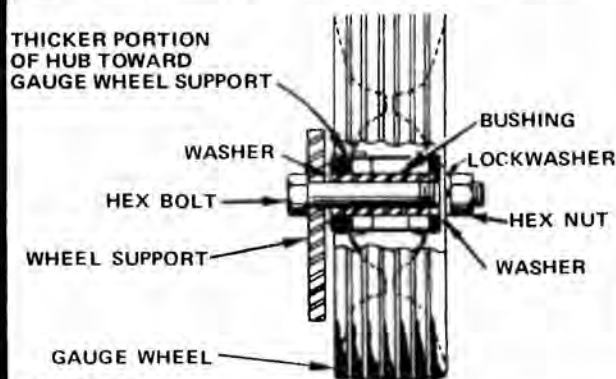

FIGURE 3
4. Assemble Gauge Wheels to R.H. side of each Gauge Wheel Support (Fig. 3). Use the top hole in each Support. NOTE: A Bushing must be inside each wheel hub and a 13/32 x 7/8 x 14 Ga. Washer must be on each side of wheel. Thicker portion of wheel hubs must be toward Gauge Wheel Supports. Tighten nuts securely.